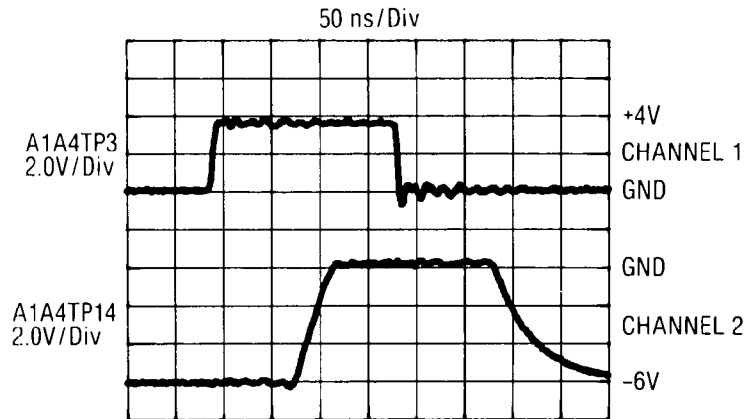

Figure 8-48. Pulse Driver Board Input Pulse and Sample Pulse
20. Connect channel 1 of the oscilloscope to A1A4TP3 and Channel 2 to A1A4TP14. Adjust the oscilloscope as shown in figure 8-48 and compare the oscilloscope display to the figure.